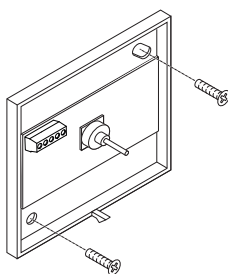

Fig. 2
4. Fix the assembly plate to the wall with the screws (fig. 2).
2. Remove the frame (fig. 2).